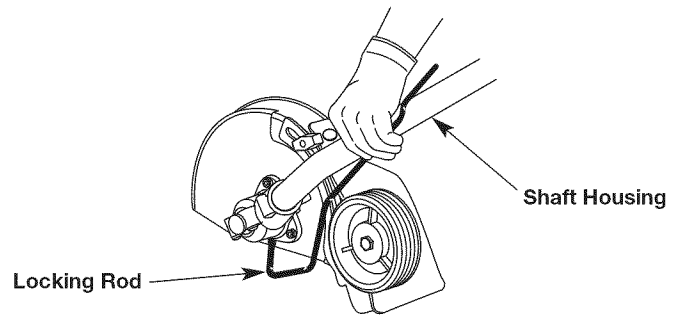

Fig. 7
2. Keep the locking rod in place by holding it next to the shaft housing (Fig.7).
7. Keep the locking rod in place by holding it next to the shaft housing (Fig.7).